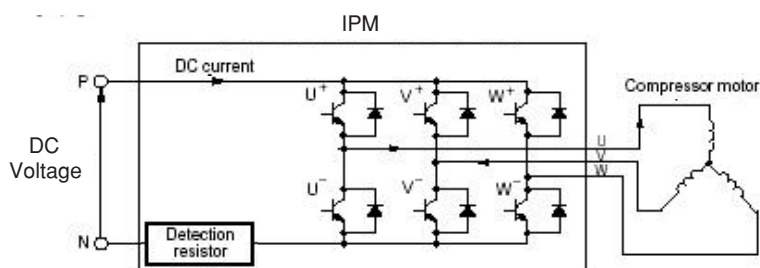

Fig. 6-6
- (1) Turns on the power module's U+ and V transistors so the current flows to the motor windings as shown in Fig. 6-6.
- (2) Varies the turn-ON time of the W+ transistor according to the DC voltage level and the start is controlled so the start current is approx. 10A .